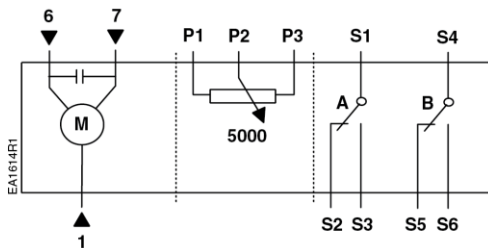

Figure 21. GDE14x Wiring Diagram.
1. Connect all wires per Figure 21.